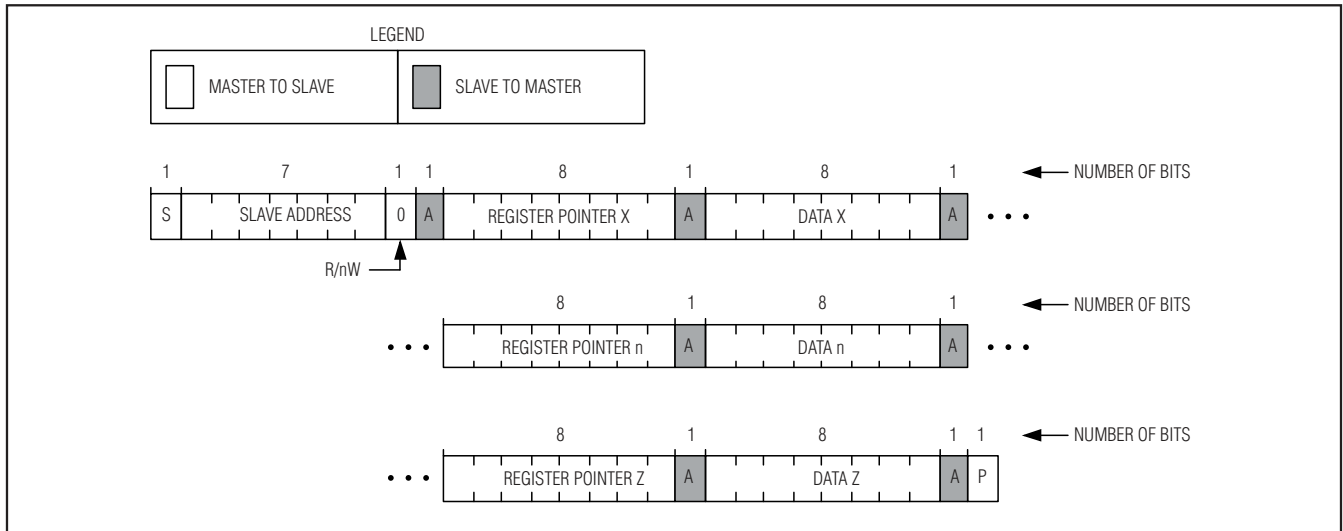

Figure 5. Multiple Bytes Register-Data Pair Format
Figure 5 shows the protocol for the master device to write multiple bytes to the MAX8904 using register-data pairs. It allows the master to address the slave only once and then send data to multiple registers in a random order. Registers may be written continuously until the master issues a STOP (P) condition. The write multiple bytes using register-data pairs protocol is as follows:
- 1) The master sends a START (S) command.
- 10) The master sends a STOP (P) condition.